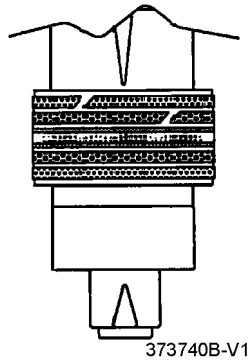

Fig 98.
- 2 Before assembly, make sure that guiding slits on the piston are not aligned ⇒ Fig 98. \(□ E-202\).